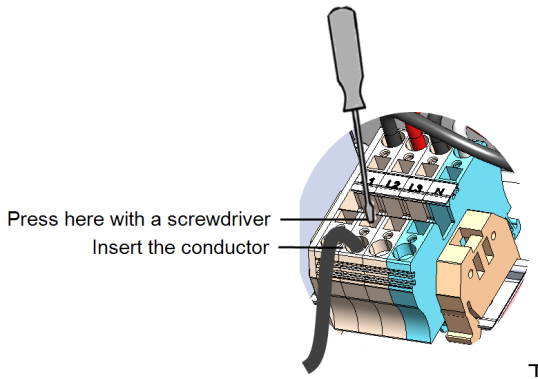

Figure 23: AC Spring-clamp terminal – 9kW, 10kW, 20kW inverter
1. Use a standard flat-blade screwdriver to connect the wires to the spring-clamp terminals (See *Figure 23*).